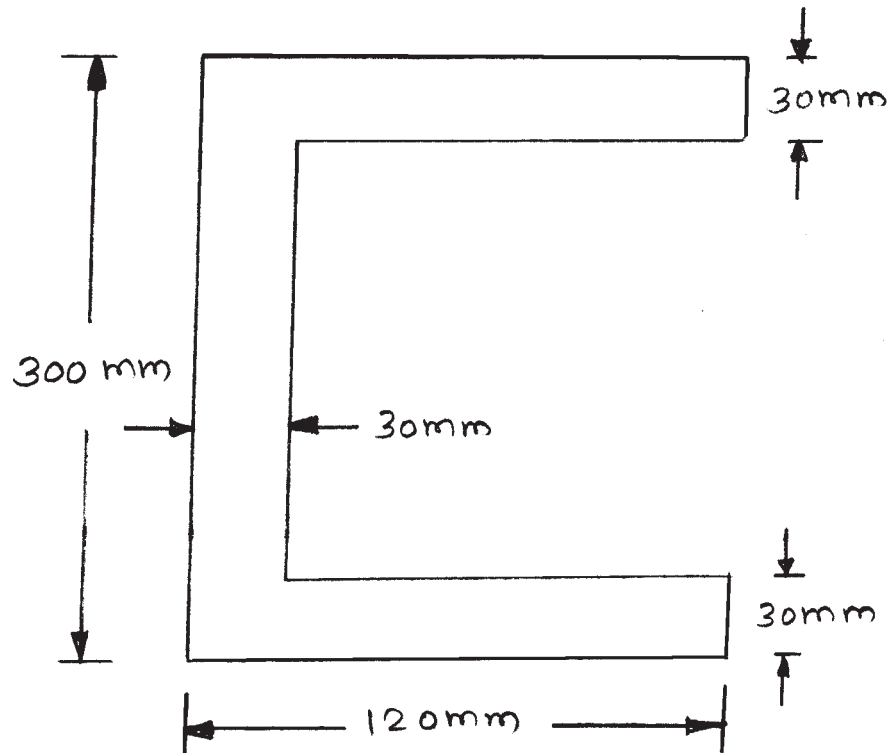

Fig. No. 8
- a) Find the centroid for a channel section as shown in Fig. No. 8.